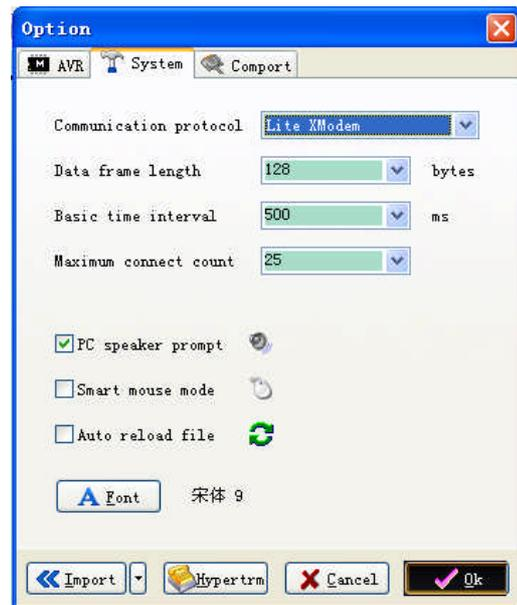

Fig. 5
- 5) Change settings on tab “System” to those shown in Fig. 5. Communication protocol must be selected to be “Lite Xmodem”.